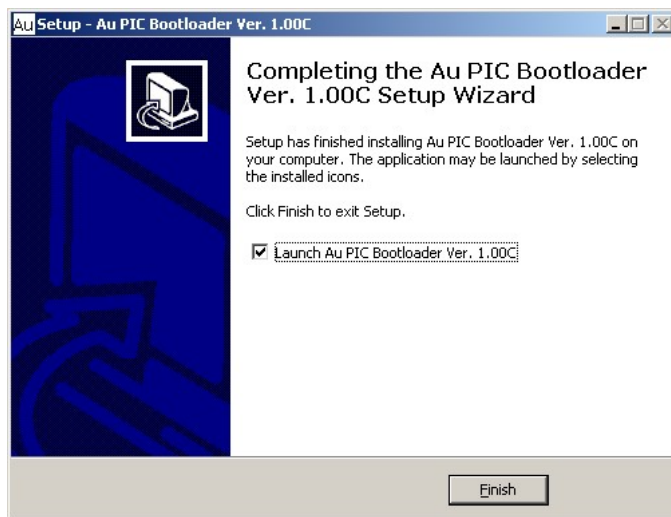

Figure C-8
8. After a few seconds, "Completing the Au PIC Bootloader Setup Wizard" window shows up. Check "launch Au Bootloader", and click "Finish" to exit setup (Figure C-8).